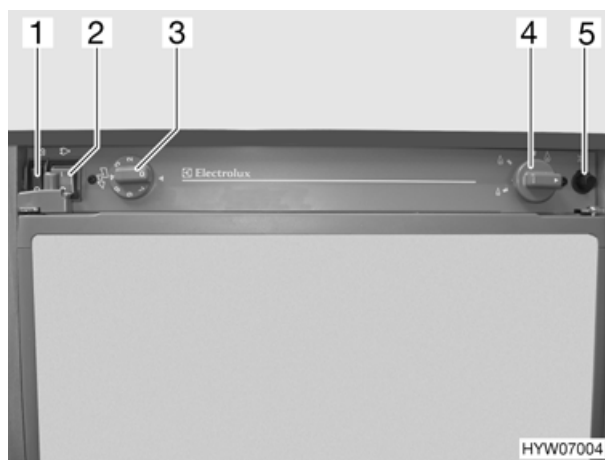

Fig. 81 Operating controls for refrigerator
- Set 240 V switch  (Fig. 81,2) to "0".
- Set 12 V switch  (Fig. 81,1) to "0".
- Set the control knob (Fig. 81,4) to "Large flame", press and hold in. Wait until gas gets into the burner.
- Press the gas ignition button (Fig. 81,5) twice quickly.
- Set 240 V switch  (Fig. 81,2) to "I".
- Set thermostat (Fig. 81,3) to required refrigerating temperature between "1" and "7".